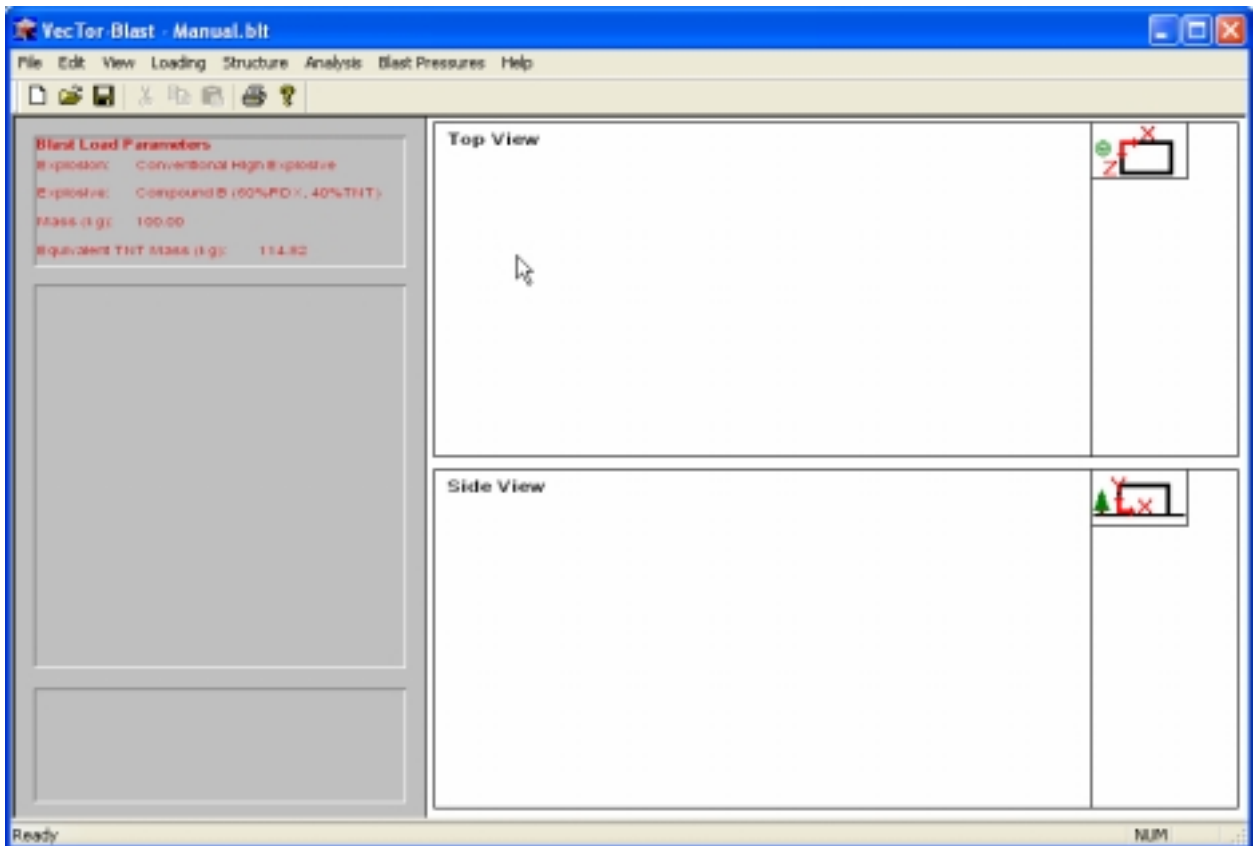

Figure 10 Example view window with blast load parameters.
4. Note that a summary of the entered input parameters as well as the equivalent TNT mass, appear in the top left grey rectangle as shown in Figure 10.